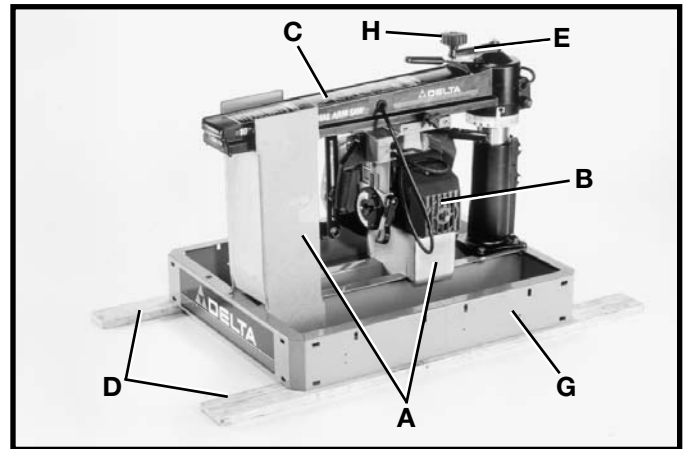

Fig. 1
1. The saw is packed at the factory with support blocks (A) Fig. 1, under the cutter-head (B), and track arm (C). Shipping boards (D) Fig. 1 are fastened to saw base (G). To prevent damage during shipment, the track arm elevating knob (H) is disassembled from lever (E). Before proceeding, insert post of knob (H) Fig. 2, through hole in lever (E) and assemble E-ring (K), to slot in post.
2. The support blocks (A) Fig. 1, can be removed by rotating track arm elevating knob (H) clockwise and the shipping boards (D) can be removed by removing hold-down screws (not shown), which are located inside saw base. Discard the support blocks (A) and shipping boards (D).